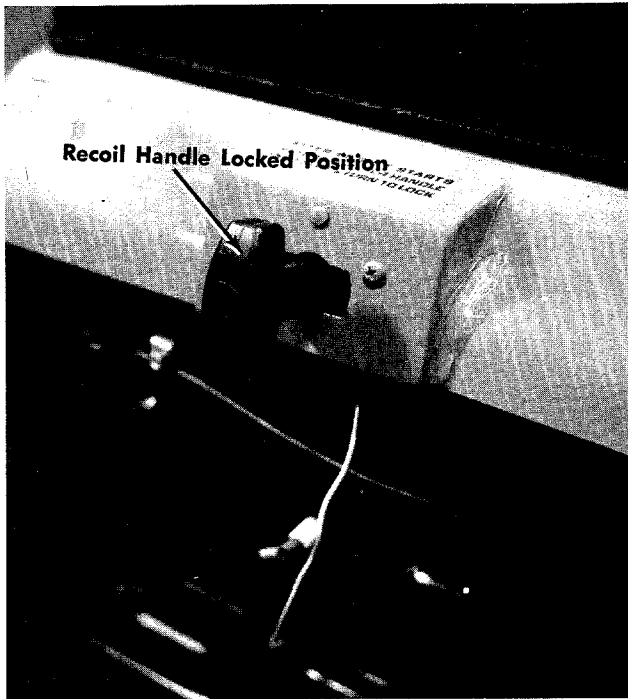

FIGURE 8. RECOIL HANDLE
6. Turn the ignition key to the ON position. Twist the recoil starter handle until it is free and pull it with a quick steady motion. After the engine starts, return the recoil starter handle. Twist it until it locks. See figures 8 and 9.